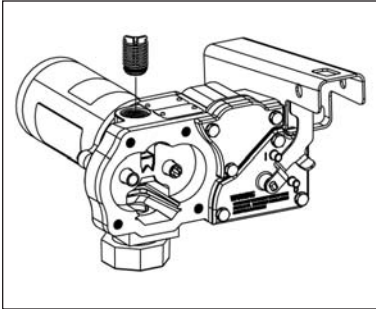

Figure 11
- c. From inside the housing, use a small screwdriver to push the poppet and spring through the top outlet port. (Figure 11)